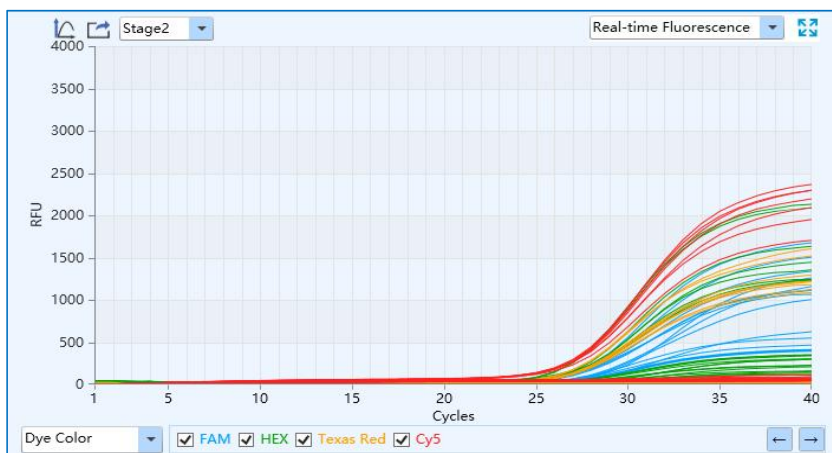

Figure D-7.1. Run Monitoring Interface - Real-time Fluorescence Function Module
1. **Real-time Fluorescence:** displays the diagram of real-time fluorescence intensity against cycle number of the current running experiment, as shown in figure D-7.1.